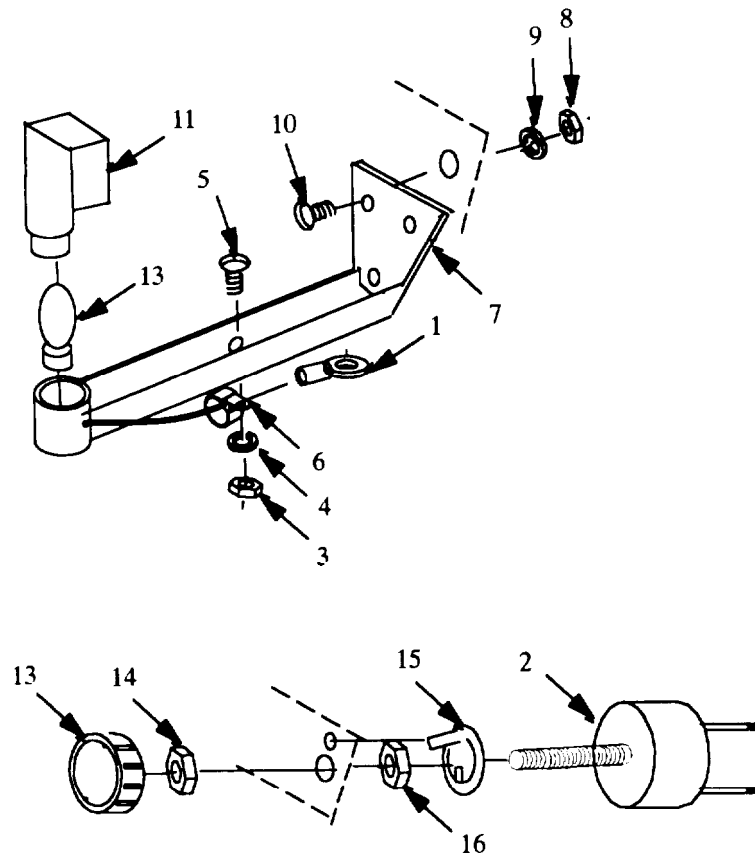

Figure 4-50.1. Panel Light/Rheostat Replacement (Model 350 PAWN).
**4.13.10.5 Removal.** (Refer to figure 4-50.1)**WARNING**
- a. Disconnect wire (1) from rheostat(2) behind control panel.
- b. Remove nut(3), lockwasher(4), and screw(5) and clamp(6) from bracket support(7).
- c. Remove nuts(8), lockwashers(9), screws(10) and bracket support(7) from control panel.
- d. Remove hood(11) and incandescent light(12) from bracket support(7).
- f. Loosen setscrew in knob(13) and remove knob from rheostat(2).
- g. Remove nut(14) and pull rheostat(2) from back of control panel.
- h. Remove locating washer(15) and nut(16) from rheostat(2).
**4.13.10.6 Repair.** (Refer to figure 4-50.1)
**4.13.10.7 Installation.** (Refer to figure 4-50.1)
- a. Install locating washer(15) and nut(16) on rheostat. Tab on locating washer must point away from rheostat.
- b. Align tap on locating washer(15) with hole on control panel and push rheostat(2) through control panel.
- c. Install nut(14) on shaft of rheostat(2) and secure rheostat to control panel.
- d. Position knob(13) on shaft of rheostat(2) and tighten setscrew in knob.
- e. Position and secure bracket support(7) onto control panel with nuts(8), lockwashers(9) and screws(10.)
- f. Place wire through clamp(6) and secure clamp on bracket support(7) with nut(3), lockwasher(4), and screw(5).
- g. Install incandescent light(12) and hood(11) on bracket support(7).